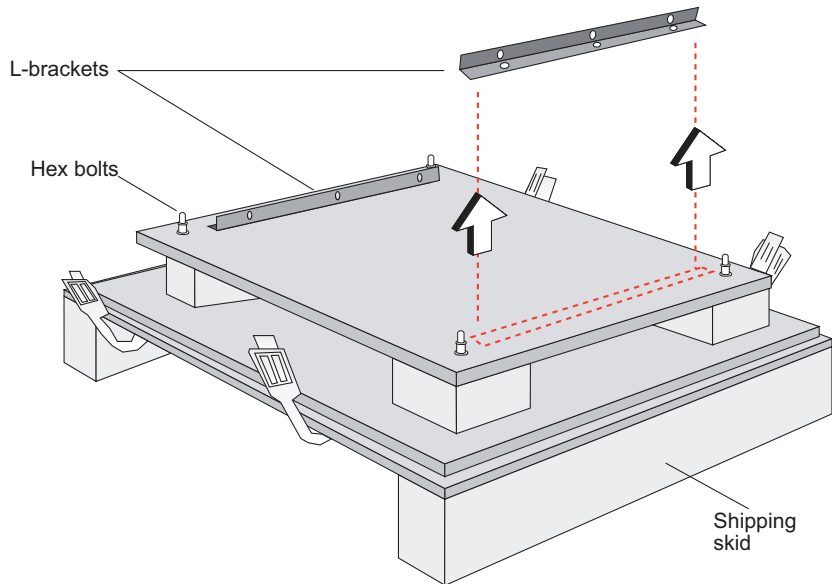

Figure 2-3 Removing an L-bracket
- 7** To move the router more easily from the skid, unscrew one of the L-brackets from the skid by removing the three screws that attach it to the skid. See Figure 2-3.